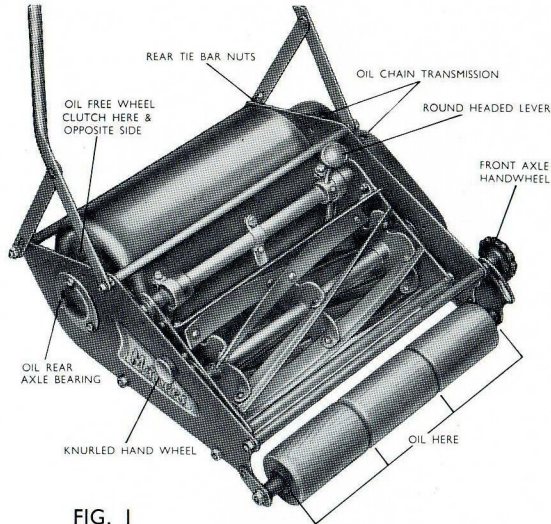

FIG. 1
- (a) The chain transmission through the two oil holes provided on top of the chain case cover. (First remove rubber oiling plugs. See Fig. 1.)
- (b) Oil round the centre rim of the freewheel clutch mounted on the rear axle shaft on each side of the drum rollers. See Fig. 1.
- (c) Oil rear axle bearing through the oil hole provided in the small cover. (First remove rubber plugs.) See Fig. 1.
- (d) Oil front rollers by applying oil at the space provided between each roller. To assist the feed of oil, tip the machine on each side when oiling. (See Fig. 1.)
Adjust the shear blade to the rotary cutter by moving the round headed adjusting lever in the direction towards the rear roller as far as it will go as permitted by the cutter setting stop; this will bring the bottom blade into a LIGHT AUDIBLE CONTACT with the rotary cutter which is the correct adjustment for cutting. (See Fig. 1.)
This adjustment is made by the front axle handwheel (see Fig. 1)—unscrew the handwheel a turn, adjustment can be made to any position on the traversed slot. The adjusting bracket should never be set too far back when dealing with a heavy crop, or when mowing the lawn at the early part of the season. Latterly, as the ground gets harder, and the growth more even, the adjustment may be set further back and the machine will cut to a very close degree and finish.
These adjust to a higher or lower position by slackening the rear tie bar retaining nuts, situated on the slot of the handlebar supporting strut (see Fig. 1) taking care to tighten the nuts securely after adjustment.
To clean the machine thoroughly, the cutter unit can easily be detached from the chassis by unscrewing the knurled handwheel seen on the right hand side frame. (See Fig. 1.)